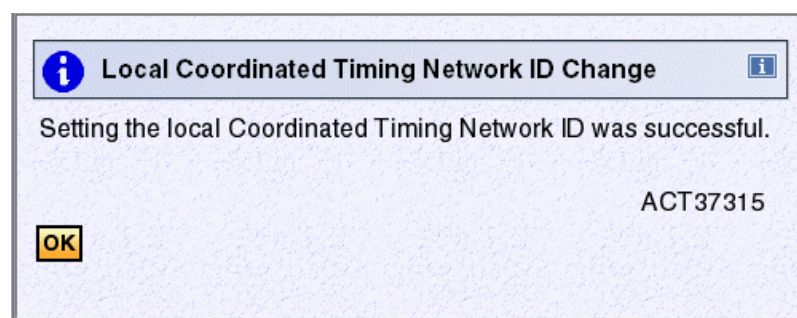

Figure 9-12 Message ACT37315 - Local Coordinated Timing Network ID Change
5. Confirm the configuration change by clicking **Yes**. This displays the Local Coordinated Timing Network ID Change, message ACT37315, indicating that the change was successful (Figure 9-12).